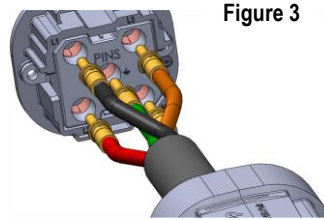

Figure 3
- c. Splay out and arrange all the wires so that they are in line with their position in the holder. Some wires will need to cross under/over to line up properly. (see figure 3)